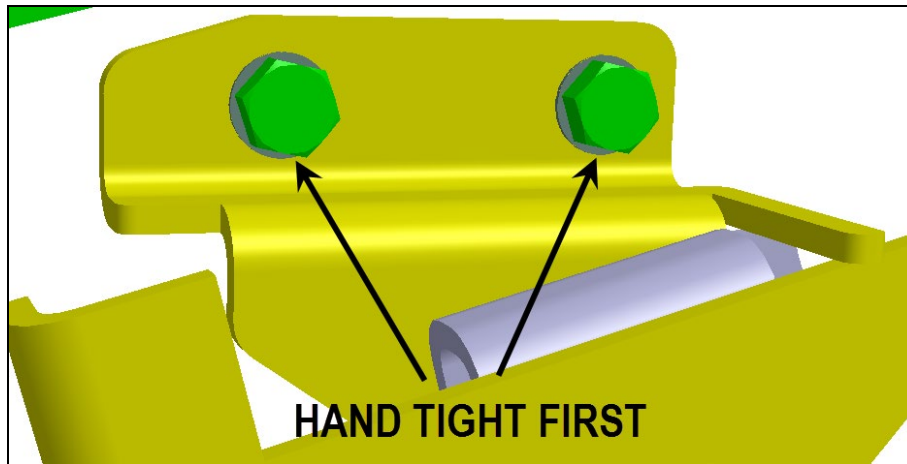

Fig.7
- Install the new mechanism on the vehicle door by first hand tightening the two retaining screws (Fig.7).